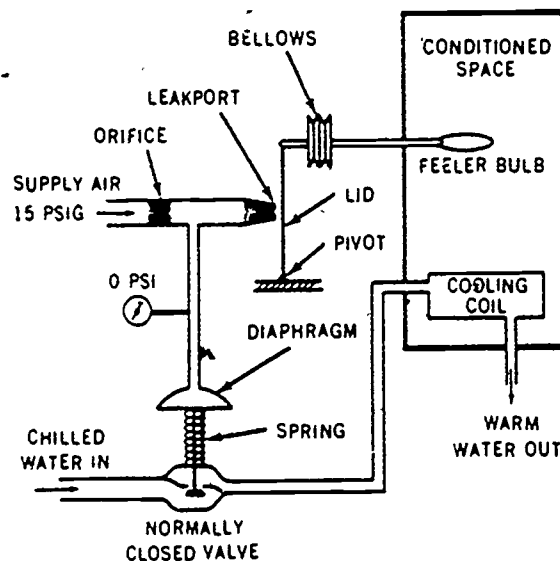
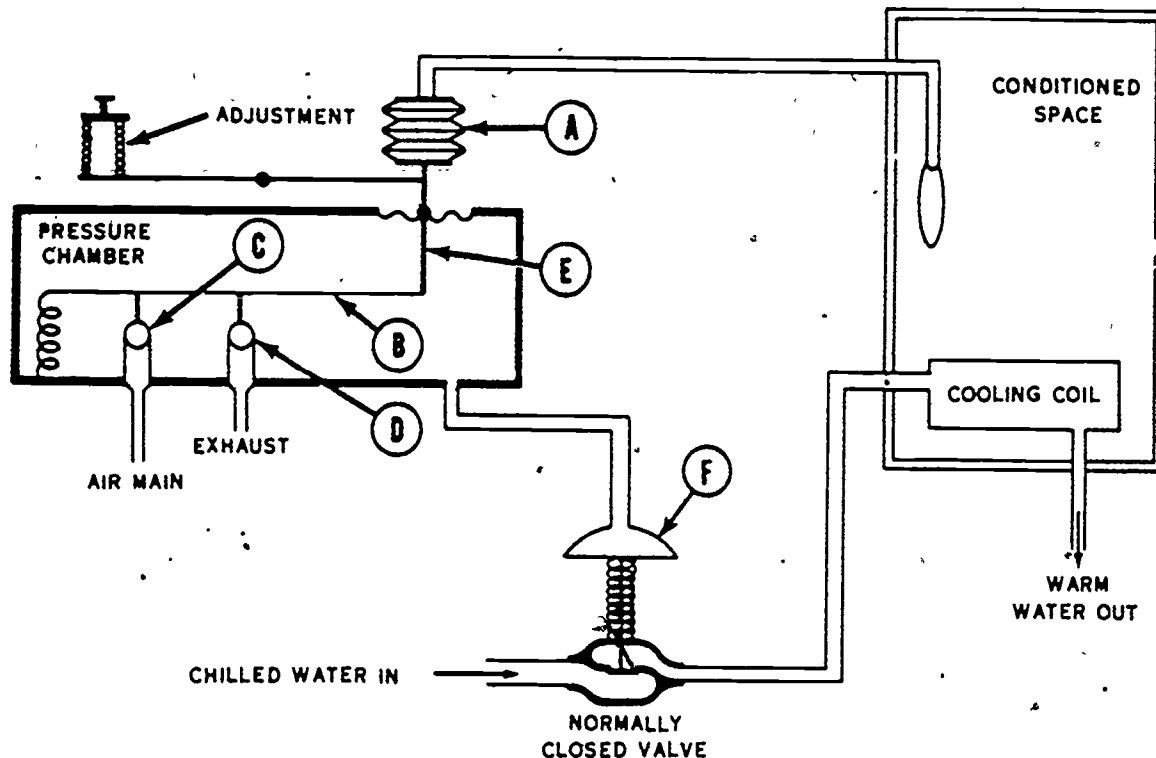

Figure 2-48. Simple bleed control principle.
Figure 2-49. Nonbleed control principle.
Bleed controls. After the air has been reduced from the source (air compressor), it is fed through a restrictor or small orifice to a leakport. The restrictor opening is smaller than the opening in the leakport. Because of the difference in size of the openings, the pressure will reduce after it passes the orifice. With the lid moved away from the leakport as in figure 2-48, the valve gage reads 0 psi.
Nonbleed controls. The nonbleed control system is shown in figure 2-49. This type of control uses a valve arrangement which eliminates the constant bleeding of air. It uses air only when the control (branch line) pressure is being increased. Now compare figure 2-49 with figure 2-48 and note the difference between the two types.
Look at figure 2-49 and assume that the space temperature has increased. This expands bellows "A," thus pushing rod "E" and diaphragm "F" down. Exhaust port "D" becomes the pivot point as valve "C" opens. The main air enters the pressure chamber and goes to the normally closed (NC) valve. As the valve moves toward the open position, friction becomes greater, causing the pressure